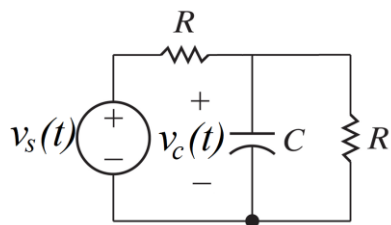

Figure 1: RC Circuit
- Derive the governing differential equation in standard form for the circuit in Figure 1 and state the static gain and time constant.
- State the solution to the governing differential equation in Figure 1 assuming zero initial conditions, a step input with constant amplitude,  $A$ ,  $C = 1 \mu\text{F}$  and  $R = R = 1 \text{ k}\Omega$ .
Use the measured values of the resistors and capacitor to calculate the time constants,  $\tau$ , for the circuit shown in Figures 1 ( $\tau = R_{th}C$ ). This will be the nominal value for the time constant for this circuit should be compared to the theoretical values found in the prelab. Table 2 provides an example of this comparison,  $\% \text{ error} = \frac{\text{nominal} - \text{theoretical}}{\text{theoretical}} \times 100$ . Note that since you are using 5% resistors and 20% capacitors, the time constant may have up to a 20% error.
Use the measured values of the resistors and capacitors to calculate the static gain, K, for the circuit shown in Figure 1. This value will be the nominal static gain for RC Circuit for the remaining of the measurements in the lab (see Table 3).